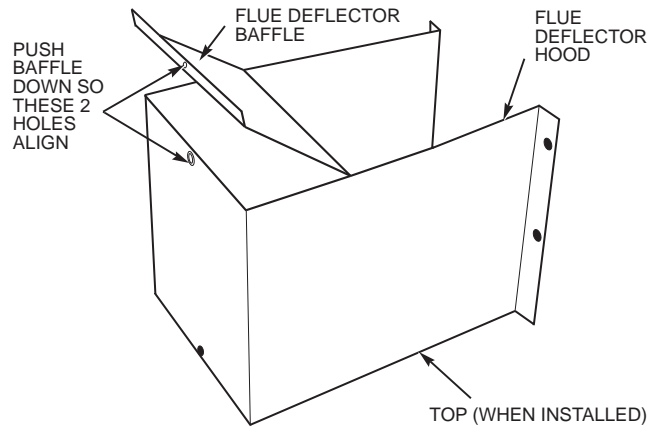
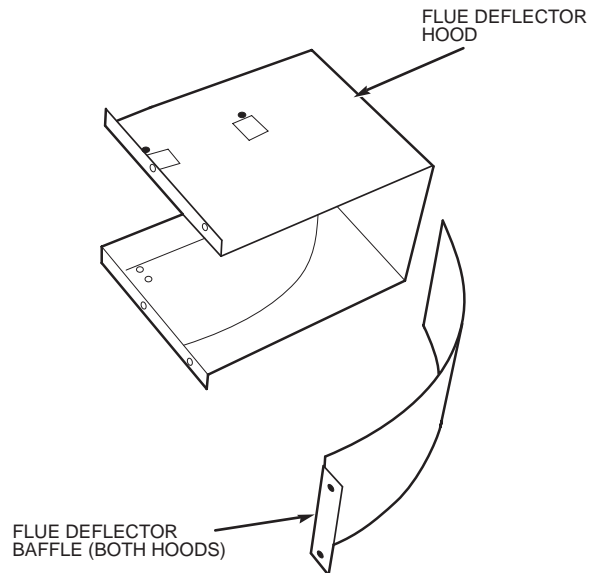
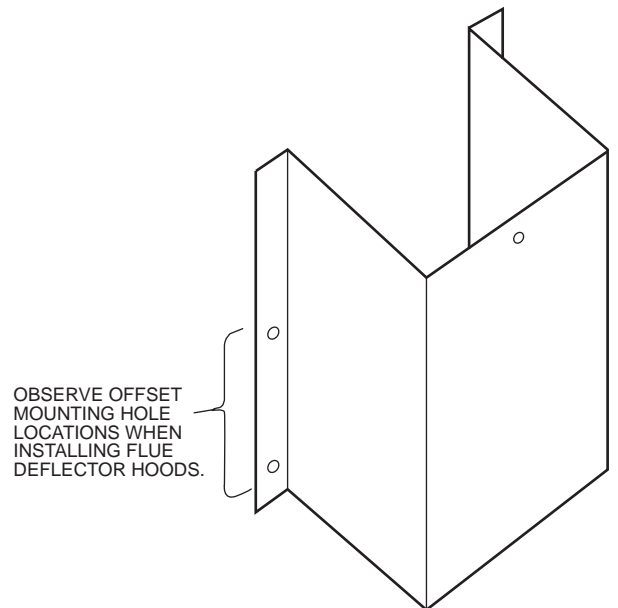

Fig. 62 — Flue Deflector Baffle, 030-050 and 075-105 Units (V-Type)
Fig. 63 — Flue Deflector Baffle, 055-105 Units (Curve-Type)
Fig. 64 — Mounting Deflector Hoods
3. Install flue deflector baffle inside flue deflector hood. See Fig 62 for sizes 030-050 and 075-105 (V-type deflector). See Fig. 63 for sizes 055-105 (curve-type deflector). Install flue deflector hood assembly over each flue outlet hood (installed in Step 2). Observe the offset mounting hole locations in the deflector hood flanges when attaching hood to panel (see Fig. 64). Holes in the mounting flange must be at the bottom when attached.